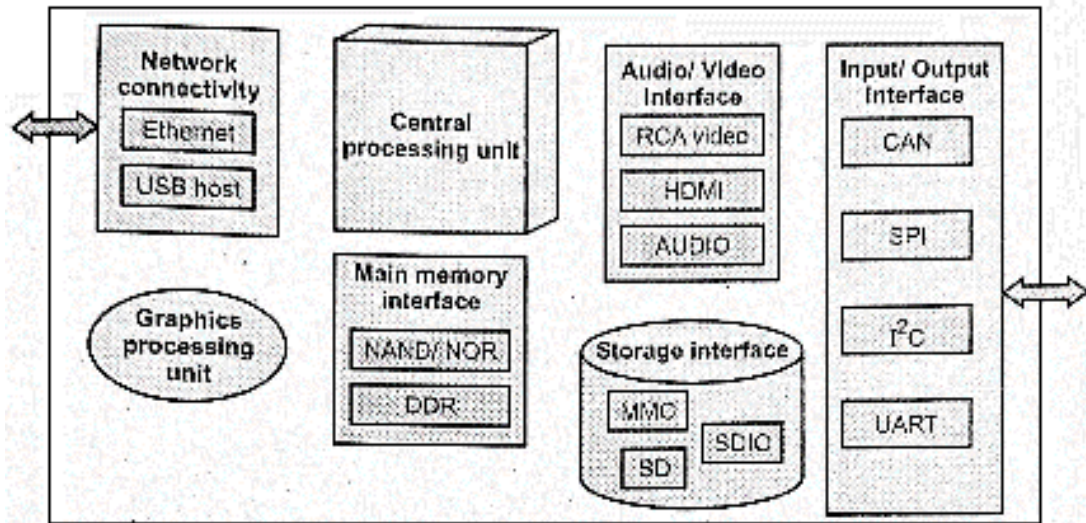

Figure 1.4 Block diagram of IoT devices
- Fig. 1.4 shows a block diagram of an IoT device.